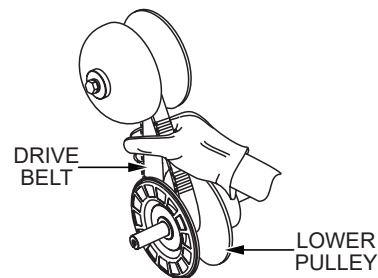

Figure 22. Expanding the Lower Drive Pulley
2. Squeeze the drive belt as shown in Figure 22, and pull the belt upwards. This will spread open the faces of the lower drive pulley.